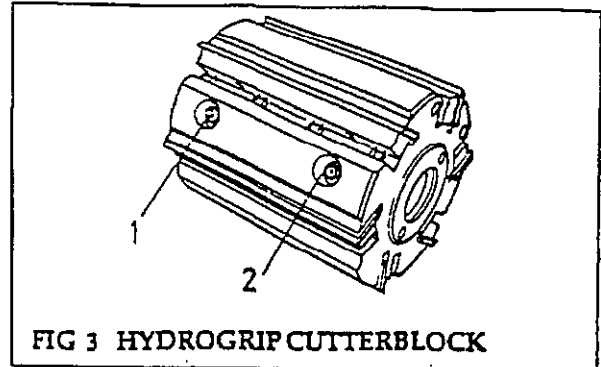

FIG 3 HYDROGRIP CUTTERBLOCK
Hydrogrip cutterblocks (fig 3)
- (1) Carefully clean spindles, cutterblocks, spacers and collars before fitting new cutterblocks.
- (2) Carefully place the cutterblock on the spindle. After fitting the cutterblock, replace the outboard support assembly and pressurise the bearing to 300 bar hydraulically. On the hydrogrip blocks tighten pressure
- release screw (2), and pressurise the cutterblock by applying hydraulic pressure to the pressure nipple (1) located in a recess located on the barrel of the block (see fig 3).